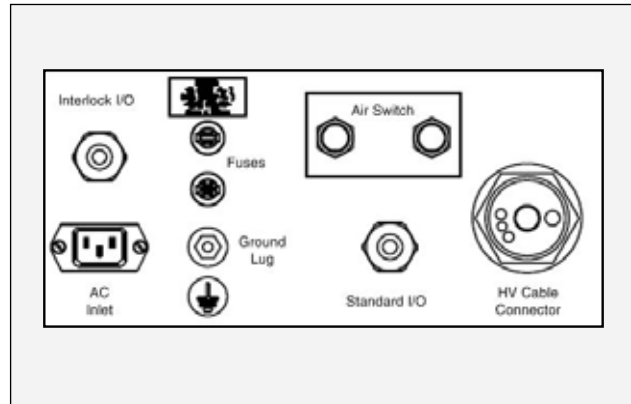

Figure 4: 9060 Connection Interface
The 9060 Controller connection interface shown in Figure 4, provides all of the required connections for setting up a local controlled painting system. This connection interface consists of one (1) high voltage cable connector, one (1) standard I/O connector, one (1) interlock I/O connector, one (1) ground lug connection, one (1) air flow switch connection, two (2) fuses, and one (1) AC inlet receptacle.